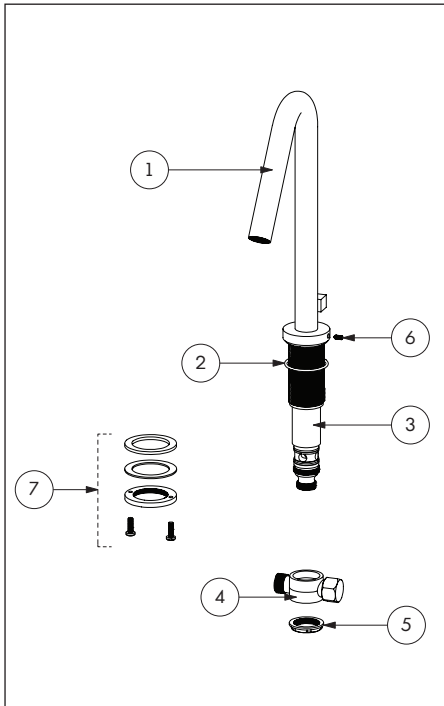

Fig.1
**! TO FACILITATE FUTURE MAINTENANCE, ENSURE ACCESS TO THE ROUGH-IN.** Remove the "T" joint (4) by removing the retaining ring (5). Assemble the spout (1) to the base (3) by tightening the retaining screw (6). Prepare the retaining assembly (7). Place the O ring (2). Fig. 1.
Retirer le joint en "T" (4) en dévissant l'anneau de retenue (5). Assembler le bec (1) à la base (3) en serrant la vis de retenue (6). Préparer l'ensemble de rétention (7). Placer le joint torique (2). Fig. 1.